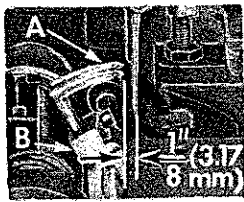
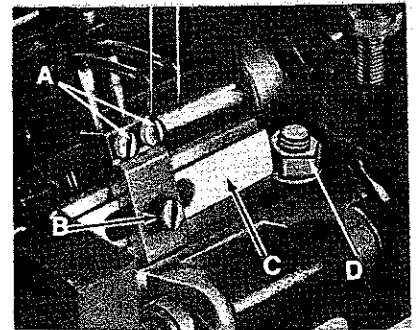

Fig. 3
Fig. 4
Insert loopers (A, Fig. 3) in looper holders (B) as far down as their shanks will permit, with their points toward the operator. The right side of the looper blades should be at right angles (90°), to the centerline of the mainshaft. Tighten screws
(A, Fig. 4). Loosen screw (B) and position looper holder so that the point of the loopers when moving forward, passes the left side of the needles as close as possible without picking at the needles, .003 inch (.076 mm) clearance. Retighten screw (B). Set the looper holder frame (C) so the distance between the centerline of the needles
and the point of loopers are 1/8 inch (3.18 mm) when the loopers are at their farthest point of travel to the rear (Fig. 3). This can be accomplished by loosening the hexagon nut (D, Fig. 4) in the looper holder frame driving arm. Move the looper holder frame (C) towards the front or rear as required and retighten nut (D). Looper gauge No. 21225-1/8 can be used advantageously in making this adjustment. NOTE: The 1/8 inch (3.18 mm) looper gauge setting must be made with both loopers, in order to maintain proper needle bar alignment.